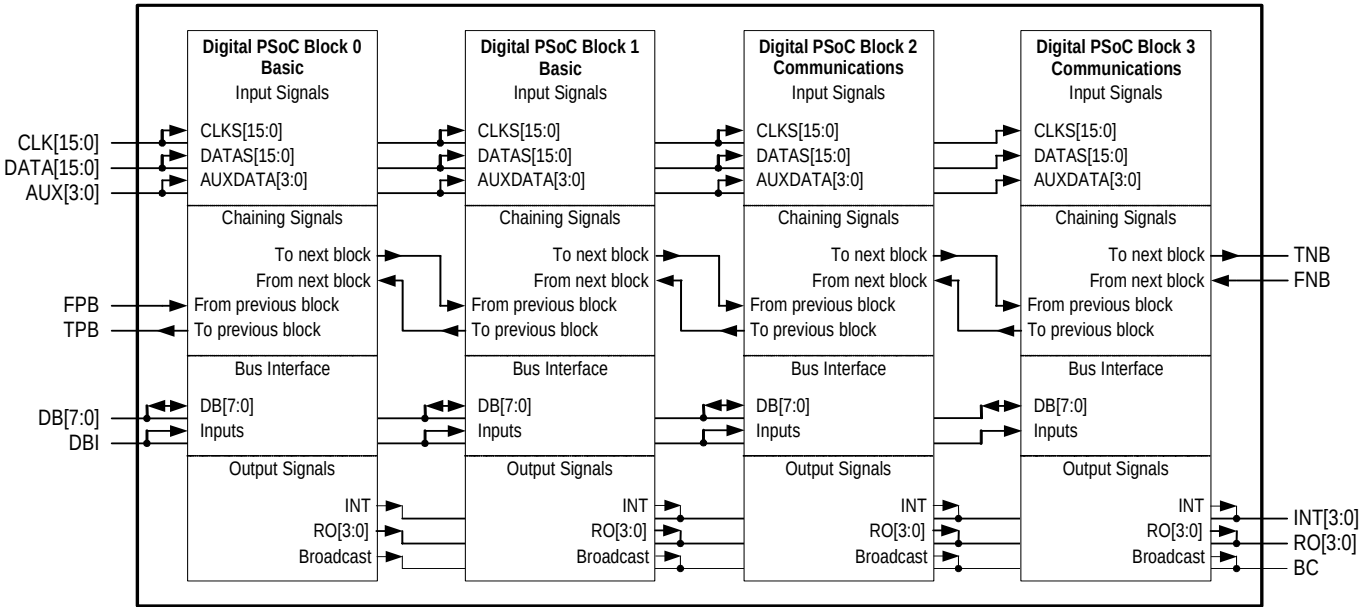
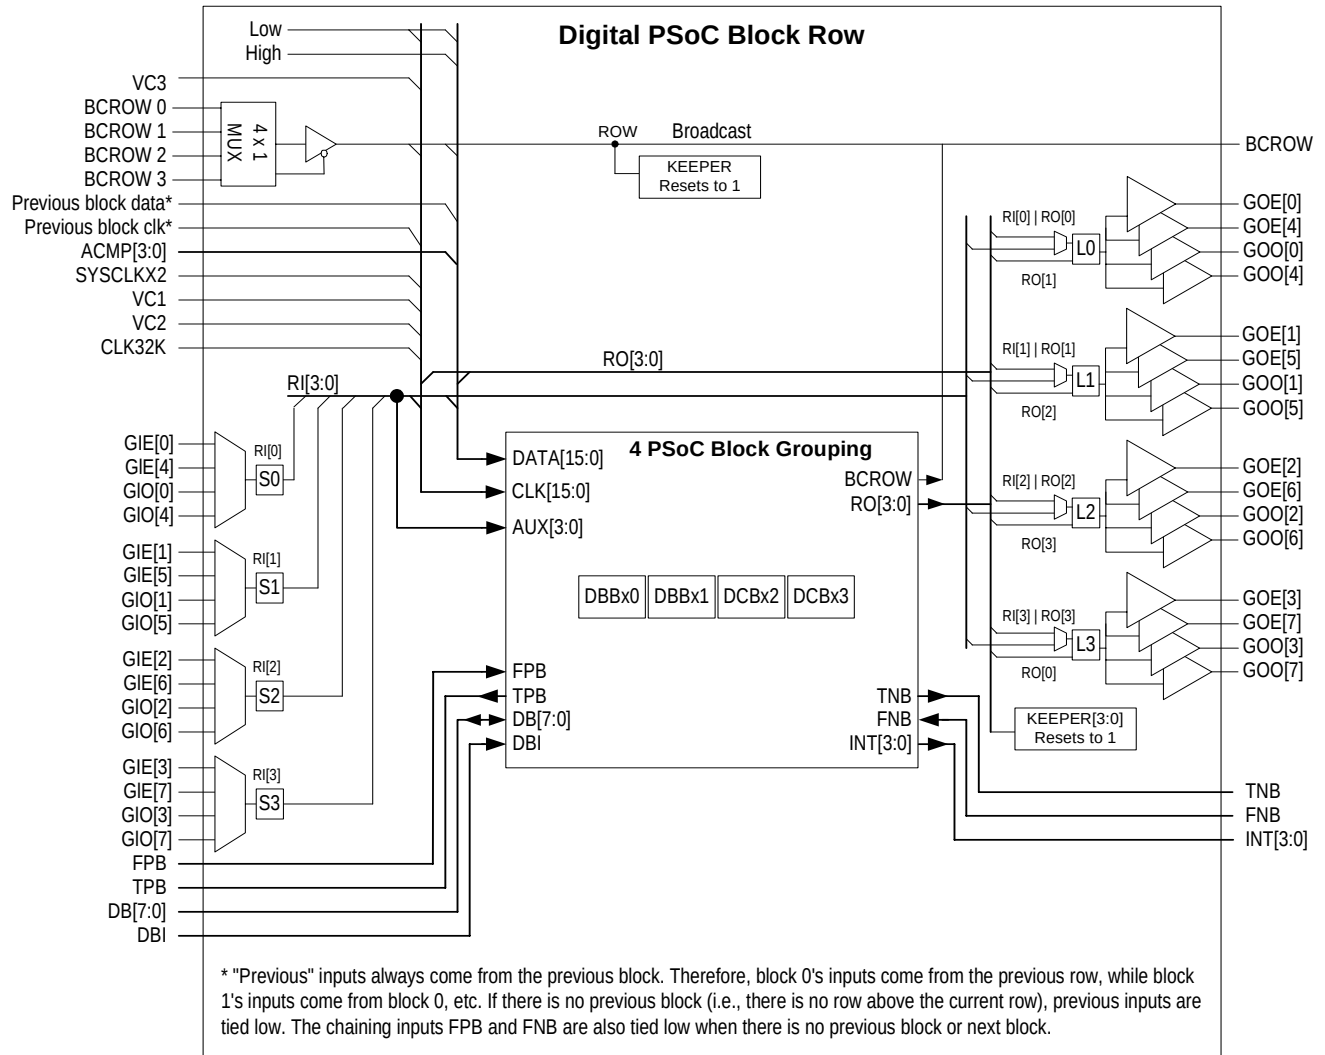

Figure 16-1. Detailed View of Four PSoC Block Groupings
Figure 16-2. Digital PSoC Block Row Structure
In Figure 16-1, within a Digital PSoC Block row, there are four digital PSoC Blocks. The first two blocks are of the type basic (DBB). The second two are of the type communication (DCB). This figure shows the connections between digital blocks within a row. Only the signals that pass through the bold line in Figure 16-1 are shown at the next level of hierarchy (Figure 16-2 on page 185).
In Figure 16-2, the detailed view of the four PSoC block grouping, as seen in Figure 16-1, has been replaced by the box in the center of the figure labeled “4 PSoC Block Group-
ing.” The rest of the configurable nature of the Row Inputs (RI), Row Outputs (RO), and Broadcast clock net (BC) is shown. The next level of hierarchy is shown in Figure 16-1.
The only configurable inputs to a Digital PSoC Block Row are the Global Input Even and Global Input Odd 8-bit busses. The only configurable outputs from the Digital PSoC Block Row are the Global Output Even and Global Output Odd 8-bit busses. Figure 16-2 on page 185 illustrates the relationships between global signals and row signals.
Notice on the left side of Figure 16-2 that global inputs (GIE[n] and GIO[n]) are inputs to 4-to-1 multiplexers. The output of these multiplexers are Row Inputs (RI[x]). Because there are four 4-to-1 multiplexers, each with a unique set of inputs, a row has access to every global input line in a PSoC device.
The outputs from a Digital PSoC Row are a bit more complicated than the inputs. Figure 16-2 on page 185 illustrates the output circuitry in a Digital PSoC Row. Notice in the figure a block labeled “Lx.” This block represents a 2-input lookup table (LUT). The LUT allows the user to specify any one of 16 logic functions that should be applied to the two inputs. The output of the logic function will determine the value that may be driven on to the Global Output Even and Global Output Odd busses. Table 16-5 lists the relationship between a lookup table's four configuration bits and the resulting logic function. Some users may find it easier to determine the proper configuration bits setting by remembering that the configuration's bits represent the output column of a two input logic truth table. Table 16-5 lists seven examples of the relationship between the LUT's output column for a truth table and the LUTx[3:0] configuration bits.